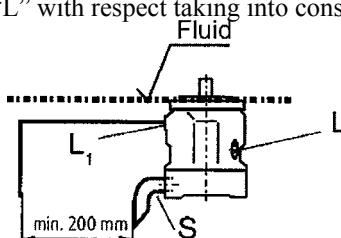

Fig. 1
a) If the minimum fluid level is equal to or above the pump mounting face close port "L" plugged, leave ports "L¹" and "S" open; L¹ piped and recommendation S piped (see Fig.1).